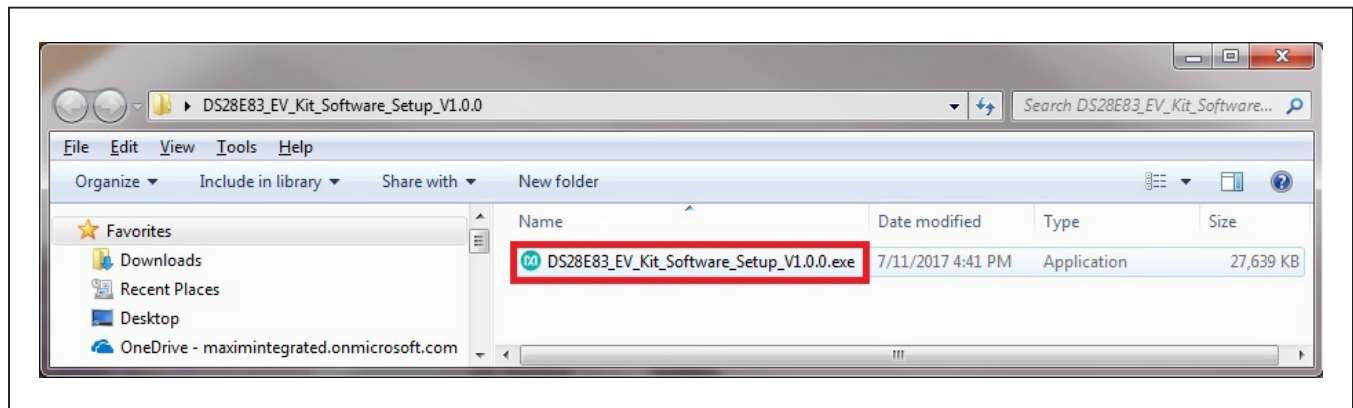

Figure 1. File Viewer
- 2) In a file viewer (Figure 1), double click on **DS28E83\_EV\_Kit\_Software\_Setup\_V1.0.0.exe** to begin the installation.